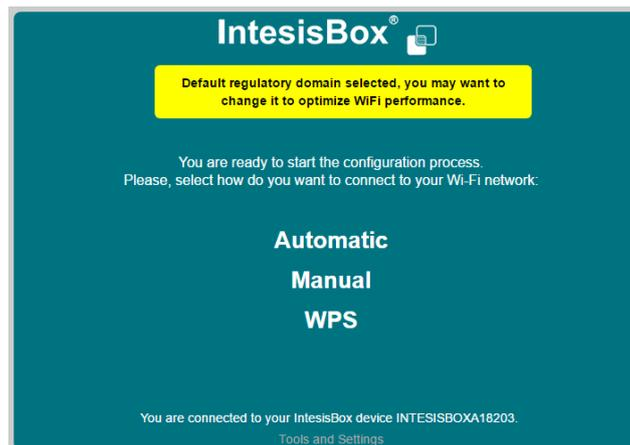

Figure 57. IntesisBox connection options.
**Step 2:** Connect the PC or mobile to this network and use the following web page to connect the WiFi device to the WiFi network: [wmpconfig.com](http://wmpconfig.com) (Figure 57).